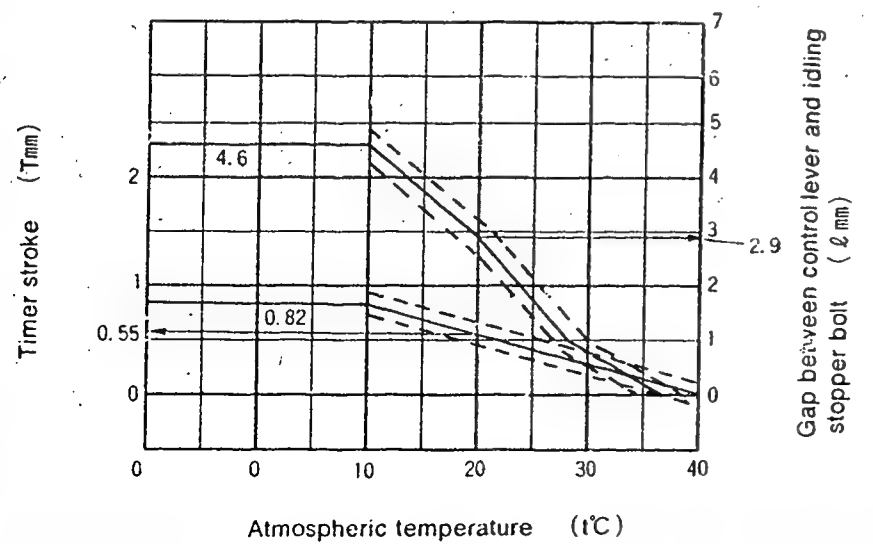

Fig. 2
1. Calculate the timer stroke from Fig. 2 according to the atmospheric temperature at the time of adjustment.
- Formula for calculating Fig. 2: $10 \leq t \leq 20 \quad T = -0.027t + 1.09$
1. Calculate the block gauge dimension $l \pm 0.05\text{mm}$ from Fig. 2 according to the atmospheric temperature at the time of adjustment.
2. Insert the block gauge (thickness gauge) selected in Step(1) above between the bracket and the idling stopper bolt.